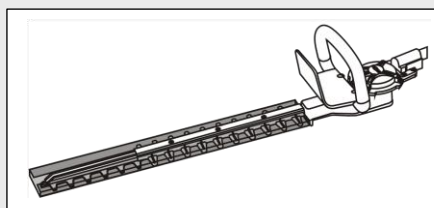

Fig. 4
2. Make sure the blade guard slides fully onto the cutting blades to ensure all cutting teeth are covered (Fig. 4).